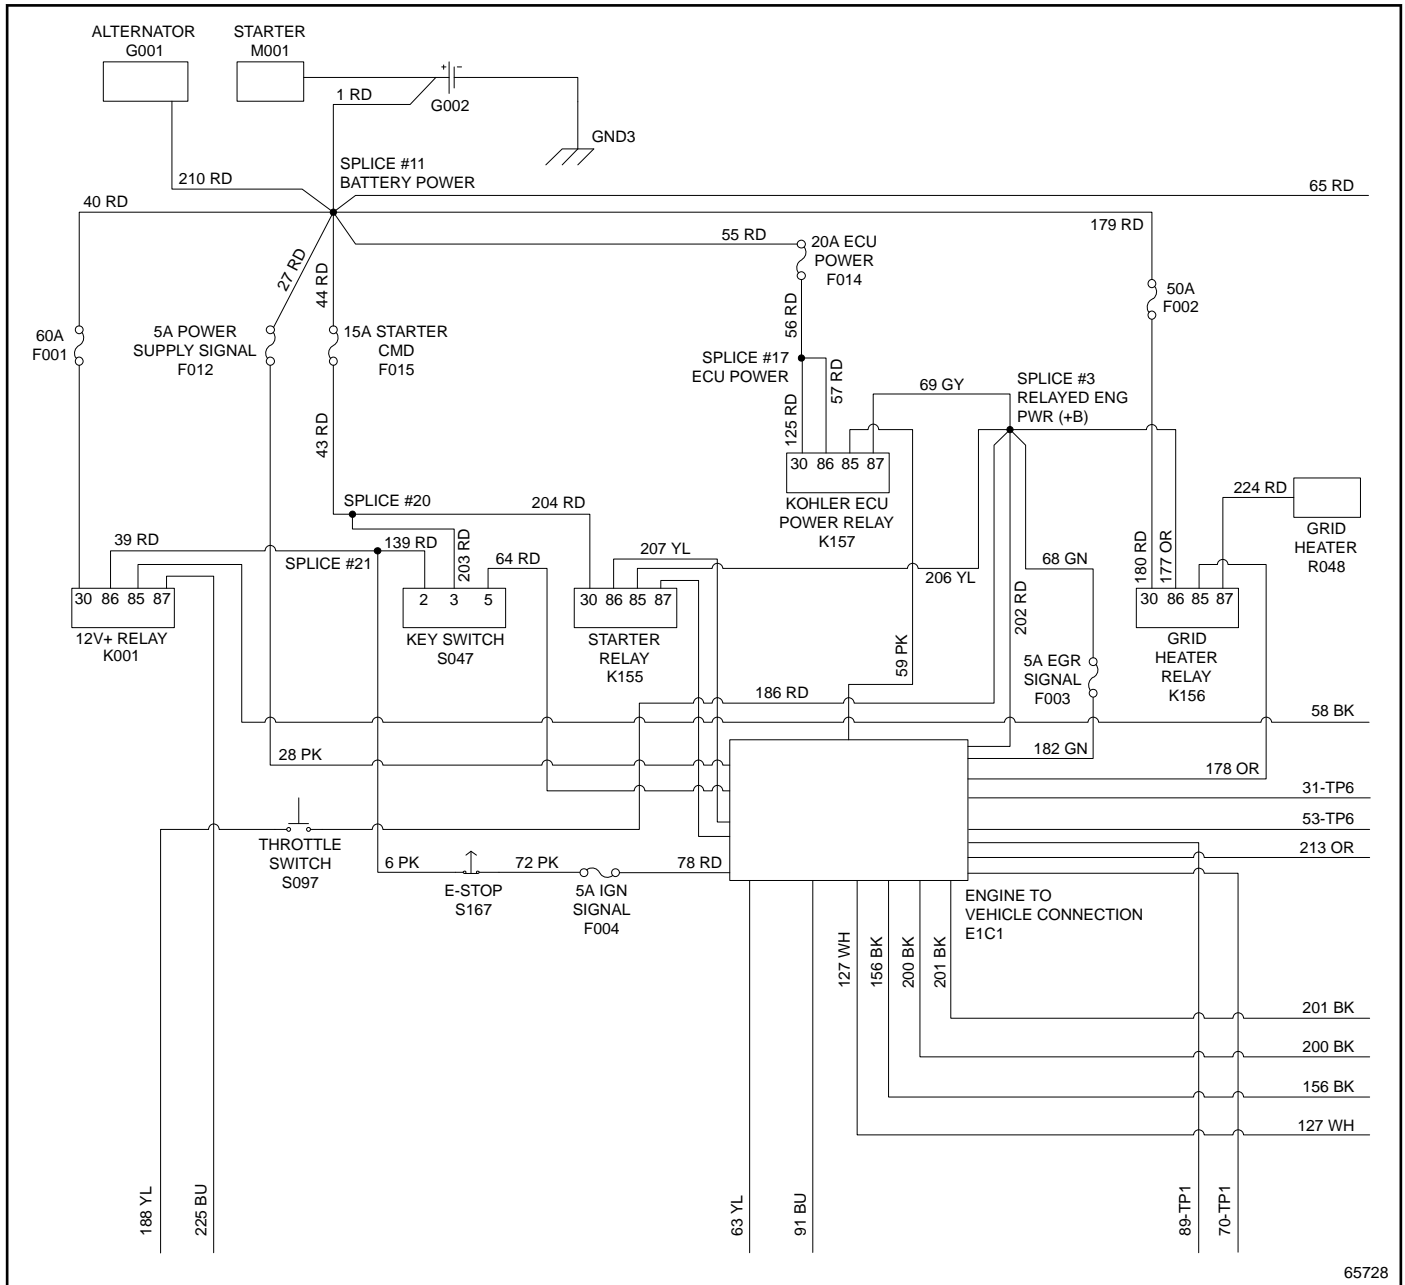

Figure 3-5: Electrical Schematic
- F012—Power Supply Signal Fuse (5 AMP) (See "Figure 3-5" on page 3-15)
- F014—ECU Power Fuse (20 AMP) (See "Figure 3-5" on page 3-15)
- F015—Starter CMD Fuse (15 AMP) (See "Figure 3-5" on page 3-15)
- G001—Alternator (See "Figure 3-5" on page 3-15)
- G002—Battery (See "Figure 3-5" on page 3-15)
- K001—12VDC Main Power Relay (See "Figure 3-5" on page 3-15)
- K155—Starter Relay (See "Figure 3-5" on page 3-15)
- K156—Gird Heater Relay (See "Figure 3-5" on page 3-15)
- K157—Kohler ECU Power Relay (See "Figure 3-5" on page 3-15)
- M001—Starter (See "Figure 3-5" on page 3-15)
- R048—Grid Heater (See "Figure 3-5" on page 3-15)
- S047—Key Switch (See "Figure 3-5" on page 3-15)
- S097—Throttle Switch (See "Figure 3-5" on page 3-15)
- S167—E-Stop (See "Figure 3-5" on page 3-15)